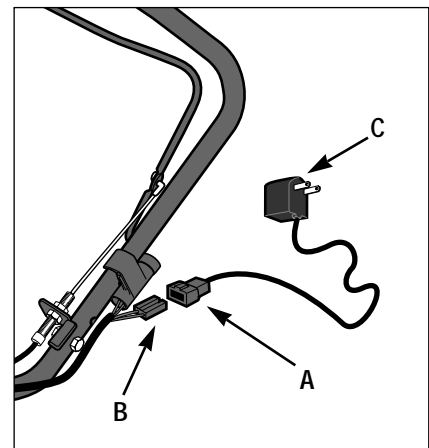

Figure 5-8: Use recharger supplied with unit.
1. Connect the small plug on the battery charger cord (A, Figure 5-8) to the wire harness plug (B) located near the keyswitch.
2. Plug the recharger box (C, Figure 5-8) into a grounded 120-Volt wall outlet.
3. Charge the battery for 24 hours. After charging, unplug the recharger box (C, Figure 5-8) from the wall outlet first, then disconnect the recharging line plugs (A and B, Figure 5-8).